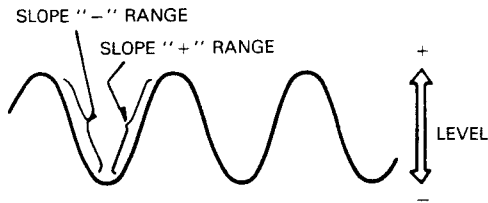

Fig. 9
Trigger point on waveform is adjusted by the LEVEL/PUSH SLOPE ②⑩ control. Fig. 9 shows the relationship between the SLOPE and LEVEL of the trigger point. Triggering level can be adjusted as necessary.